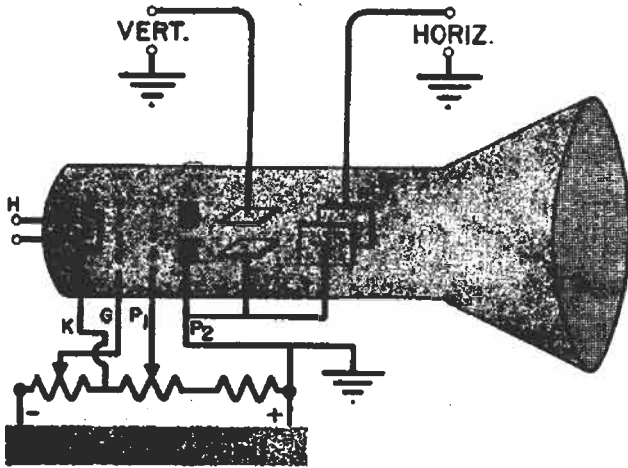

FIG. 3. The symbols used here are those commonly found on schematic diagrams representing the c.r.o. tube. Notice the connections to the deflecting plates.
► One plate of each pair, as shown in Fig. 3, is connected to anode P_2 so that the plates will normally be at the same potential as P_2 and thus not defocus the beam. Notice that it is the voltage difference *between* the plates which produces the deflection, not the fact that a connection is made to P_2 .